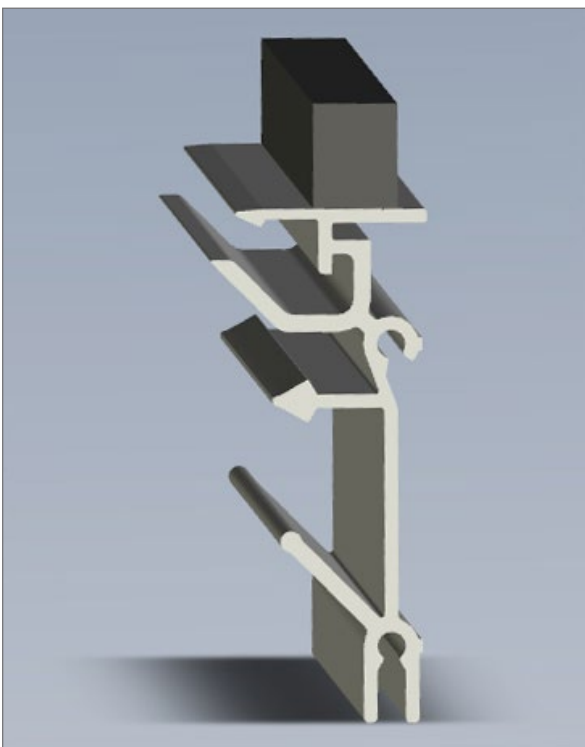

Figure 9: Solid Wall enhancement.
STEP 5: Apply QTY 1 layer of $\frac{5}{8}$ " thick x $\frac{1}{2}$ " wide (16mm x 13mm) CSF tape continuously to top of Solid Wall Horizontal extrusion on either side of Ceiling Track gap. CSF tape should be positioned on top Flanges so top Horizontal is capable of engaging Ceiling Track as well as to allow for Ceiling Trim engagement (see Figure 9).